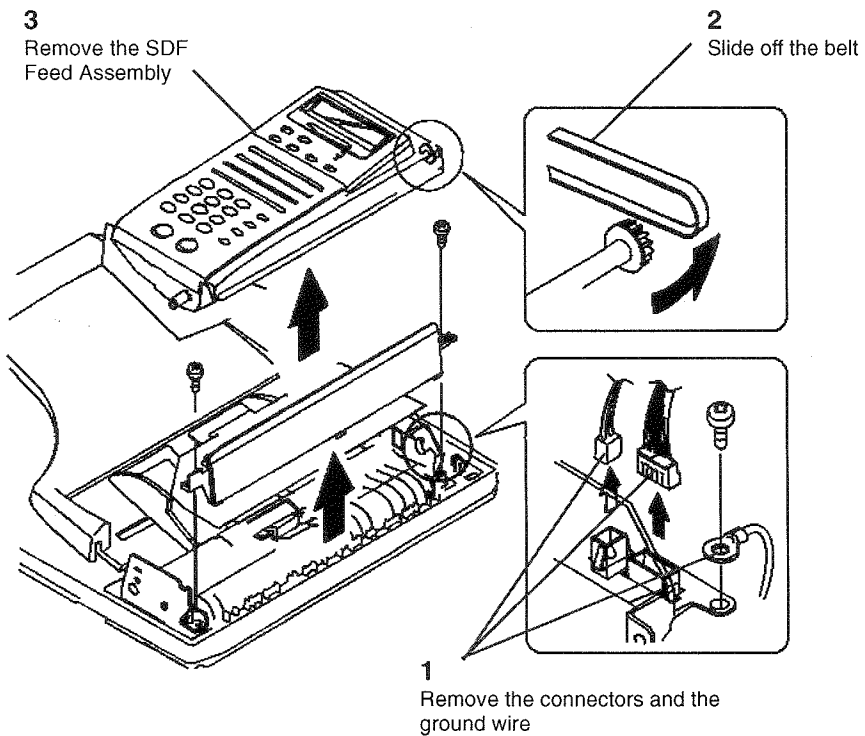

Figure 3 Removing the SDF Feed Assembly
3. (Figure 3 ) Remove the SDF Feed Assembly.